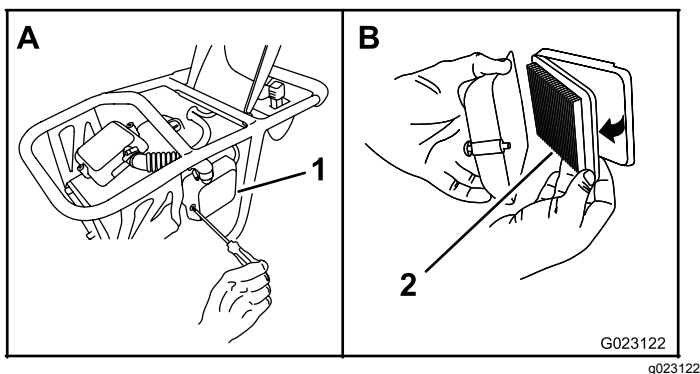

Figure 15
1. Remove the screws that secure the cover to the air-filter housing (Figure 15)
2. Remove the air filter from the housing as shown in Figure 15.